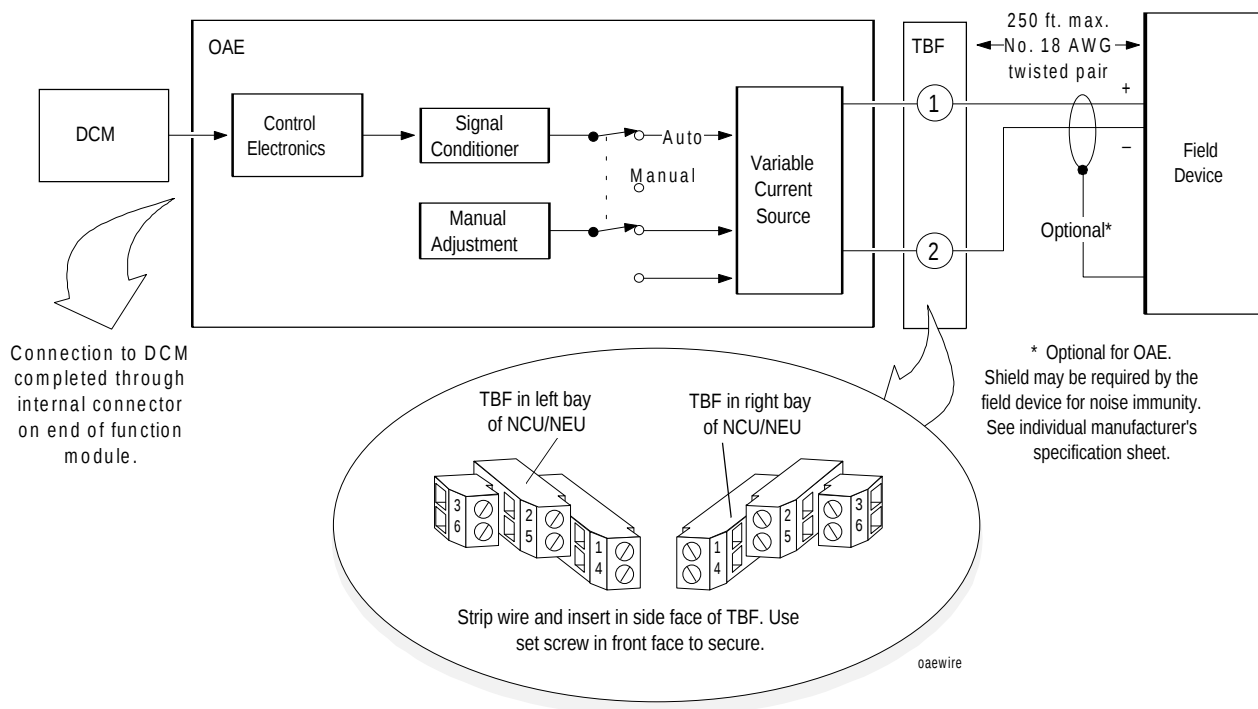

Figure 3: Wiring for Current Source Applications
3. Refer to Figures 3 to 5, and identify the proper panel and slot number location for this module.
Figure 3 diagrams the wiring for Current Source (0 to 20 mA) applications using the OAE Function Module.